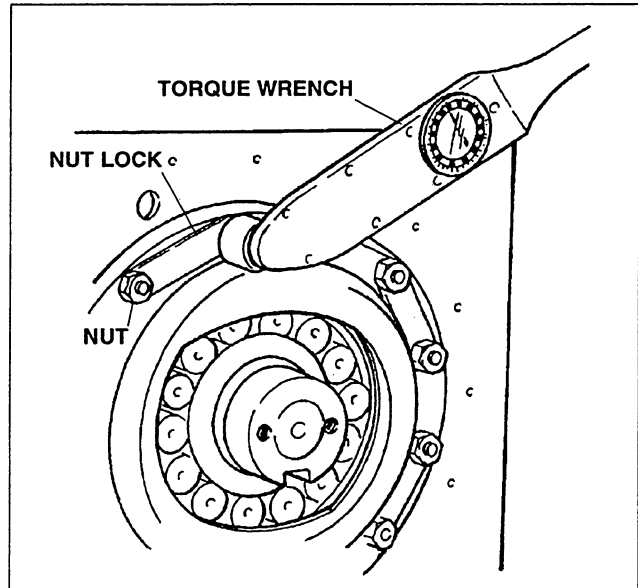

Figure 4-14. Torquing Nuts
sharp chisel and a hammer, bend the tabs on new nut locks (8) to prevent nuts (7) from moving. See Figures 4-14 and 4-15.